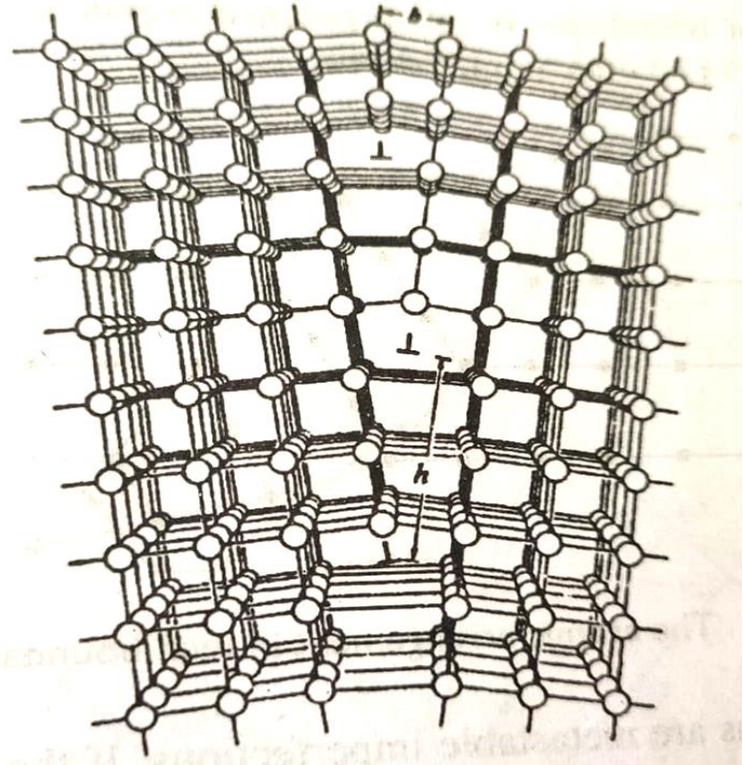

Fig.7
□ The orientation difference is less than 10 degrees. The tilt boundary is shown in Fig.7